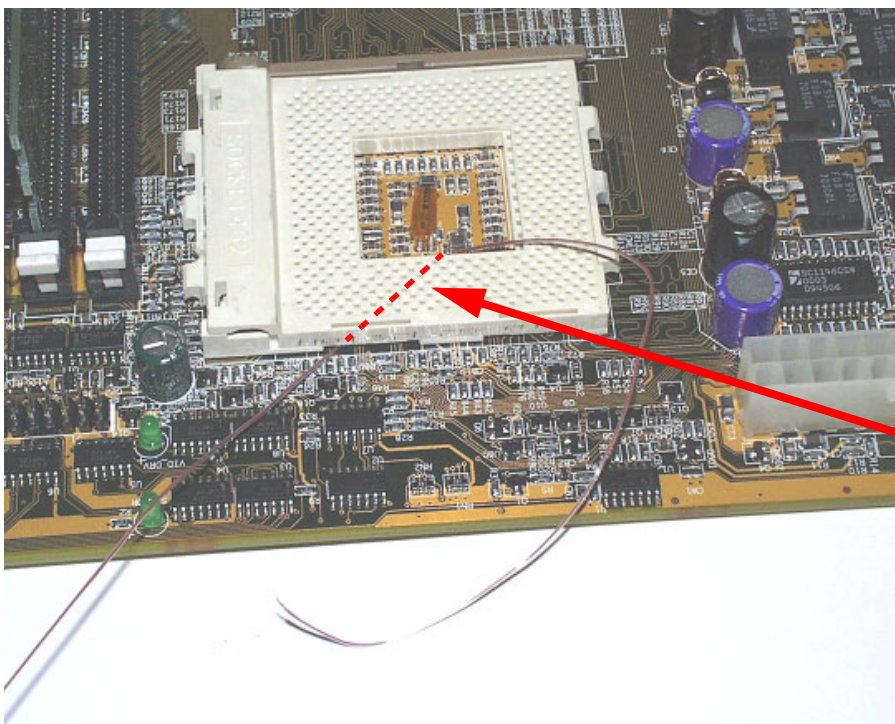

Figure 10. Thermocouple Wire Length
1. Thread the thermocouple (T/C) wire between the motherboard and socket along the line shown in Figure 10 on page 22 until it reaches the open area in the middle of the socket.
2. Pull enough wire through to ease the attachment of the thermocouple to the backside of the processor package, as shown in Figure 10 on page 22.
Figure 10 shows the path between the motherboard and the socket along which the thermocouple is threaded.